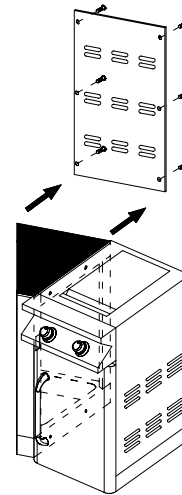

Fig. 1
Step1: Unscrew the back panel from the pie cart, and then remove the back panel. (Fig. 1)
1. To connect, push back sleeve of socket (fig.1).